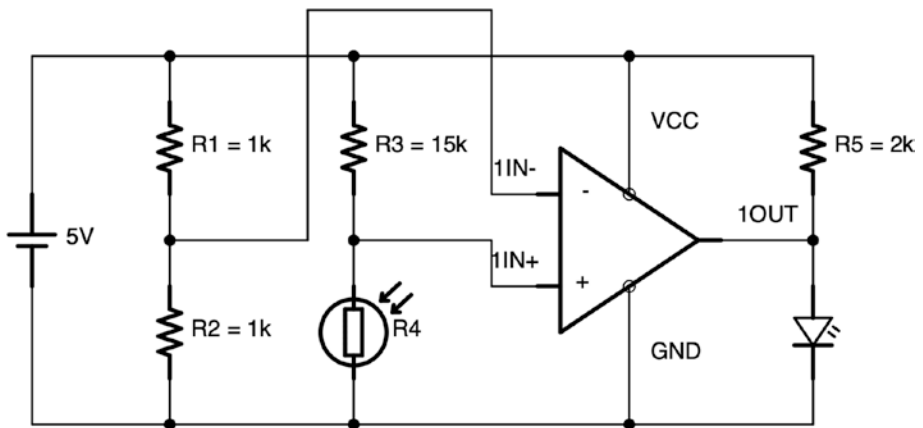
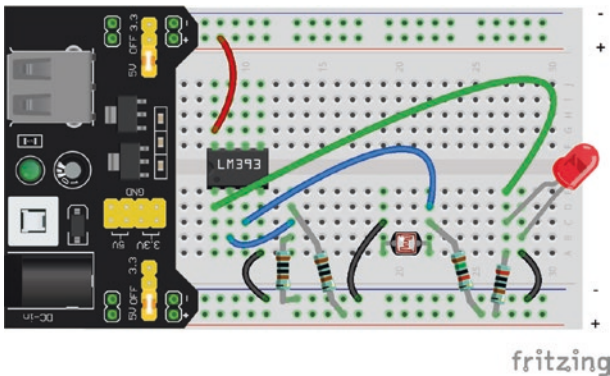

Figure 11-7. *Darkness Sensor Schematic*
Figure 11-8. *Darkness Sensor Breadboard Layout*
The final circuit is given in Figure 11-7. You can see a way to lay it out on the breadboard in Figure 11-8.
4. Build the circuit in Figures 11-7 and 11-8.